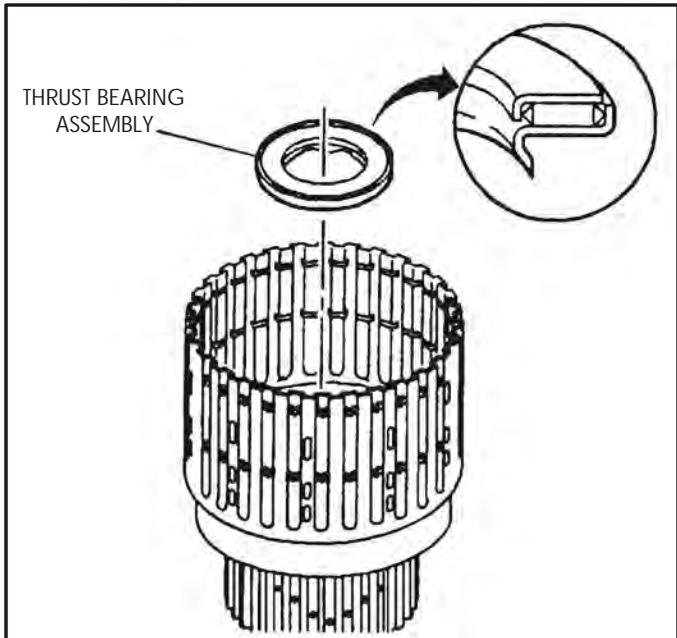

Figure 114
33. Install the thrust bearing into the housing by snapping it into position (See Figure 114).